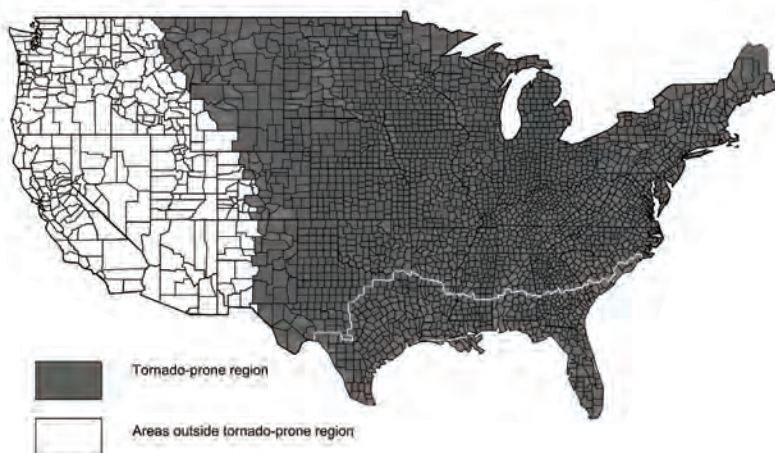

Figure 1: A map of tornado-prone regions in the U.S.
- Location: Buildings must be located in a tornado-prone region per Figure 1.